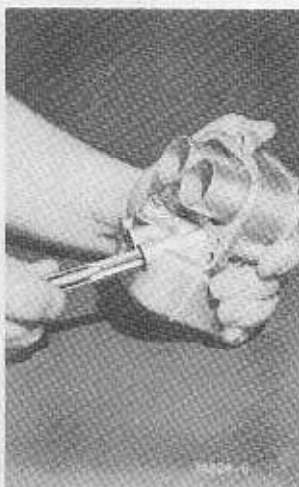

Fig. 22
**23** Clean out idle adjustment screw threads in throttle body, using tap #9514-A as shown in Fig. 22. Care must be used not to remove any metal as the screws 40-9541 must fit tightly enough to prevent an air leak which would prevent obtaining proper idling mixture adjustment.
**26** Clean out threads for main jets as shown in Fig. 22. Use tap 9533-A.